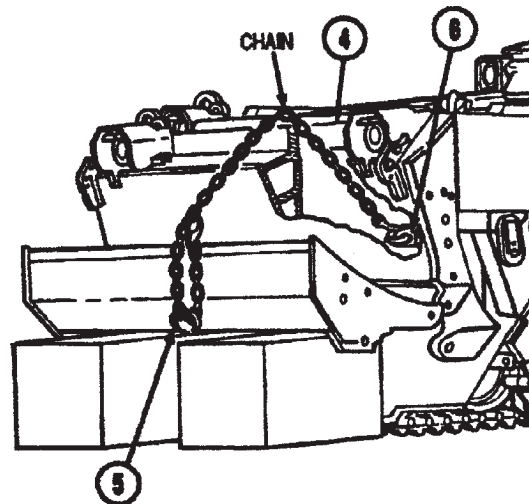

Figure 47. Chain Connection.
Step 5 applies to Figure 47.
5. Move ejector (4) forward, and connect chain between shackle (5) and eye (6) on ejector (4).